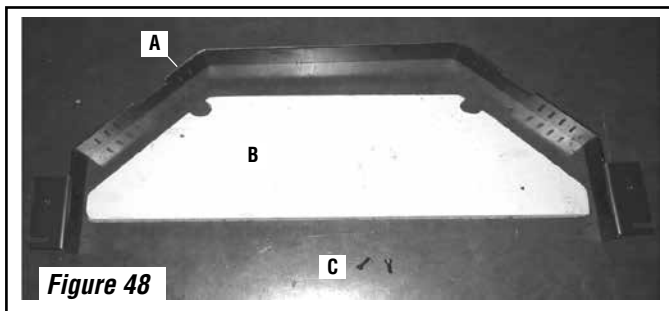
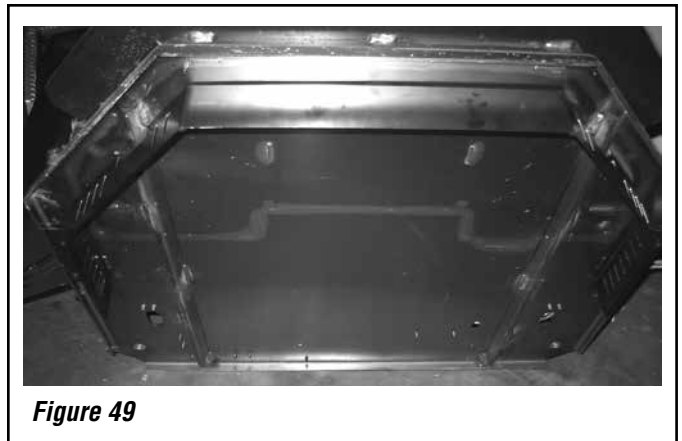

Figure 48
Figure 49
(Refer to Figure 48)
1. **Install the 2" lower trim piece** - Fasten the 2" trim piece underneath the base of the front of the insert as follows; use a 5/32" allen wrench or T-handle wrench to secure the 2 screws (see C in **Figure 48**) provided, one at the left side and one at the right side base of the insert. **NOTE:** This process will be simplified by very cautiously tilting the insert back (see **Figure 49**).